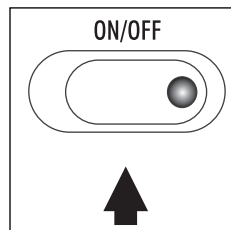

fig. 8
- **Models with single switch:** Press the "ON/OFF" switch (fig. 8). The light on the button comes on to indicate that the drip coffee maker is operating.